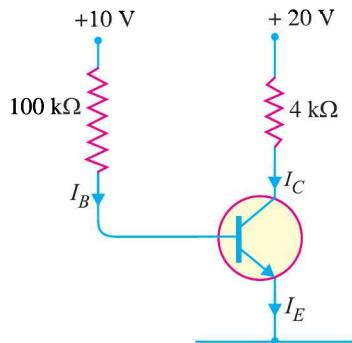

Fig. 9.48
2. Fig. 9.48 shows biasing with base resistor method. Determine the operating point. Assume the transistor to be of silicon and take $\beta = 100$. [$I_C = 0.93\text{ mA}$, $V_{CE} = 17.3\text{ V}$]